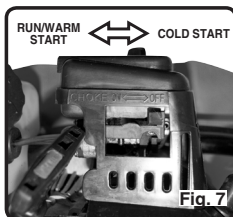

Fig. 7
3. Move the choke lever to the 'cold start' position. (See Figure 7)
7. After engine starts and runs for 10-15 seconds, move choke lever to "run/ warm start" position. (See Figure 7)
3. Move the choke lever to the 'run/ warm start' position. (See Figure 7)
3. Move the choke lever to the 'run/ warm start' position. (see Figure 7)